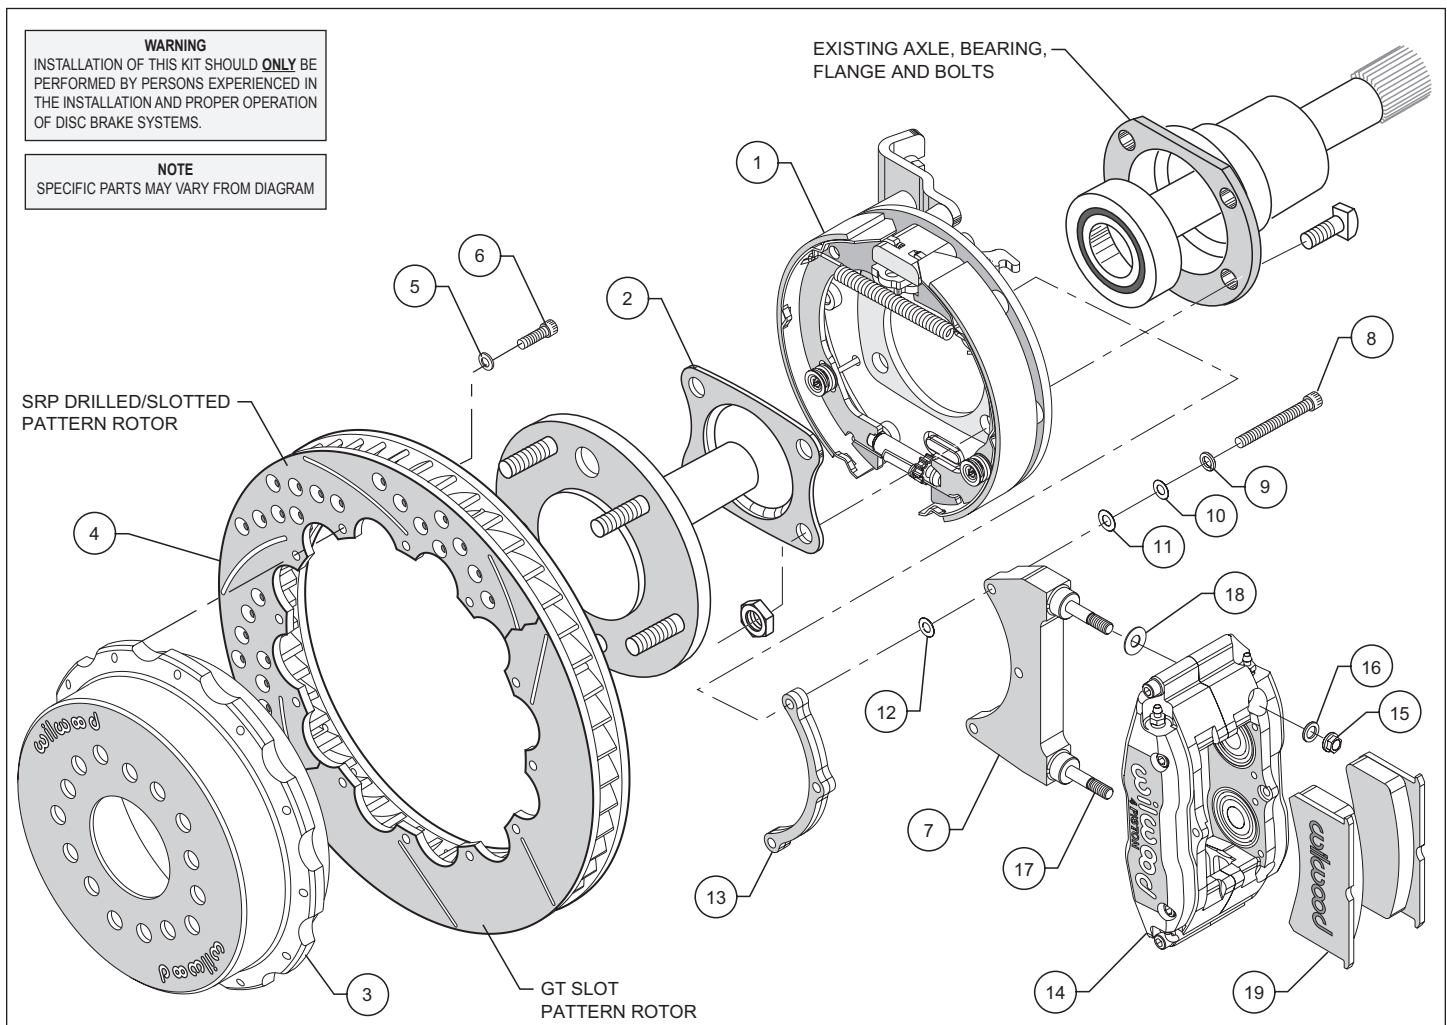

Figure 1. Typical Installation Configuration
- Full Circle Retainers** require the utilization of a qualified machine shop to press off the axle bearing and OEM retainer. Then have machine shop install new retainer (2), supplied with bracket kit with lip facing toward bearing, reference Figures 1, 4 and 5 (we suggest that you install a new bearing at this time, not supplied with kit).
- "U" Retainers** require the removal of the OEM retainer by cutting or grinding a notch in the retainer to facilitate removal. Once OEM retainer is removed, install new retainer (2) supplied with bracket kit with the "U" opening facing up and the lip facing toward bearing, reference Figures 1, 4 and 5.
•**NOTE:** Please reference the caution statement at the beginning of the assembly instructions. The caliper mounting bracket assembly (7) should be installed first with clean, dry threads on the mounting bolts (8). Install the bracket from the rear side of the bracket kit assembly (1) by sliding bolt (8) through lock washer (9), flat washers (10 and 11) bracket (7), shim washer (12) and finally through the spacer (13), see Figure 1. **NOTE:** End of bolt should not exceed inside face of insert. The bracket must tighten squarely against the back side of the bracket kit assembly (1). Inspect for interference from casting irregularities, machining ridges, burrs, etc. Use one thin shim (12) between the bracket (7) and spacer (13) during initial trial fitting.
• Install one washer (18) over each pre-installed stud (17) on the radial mount bracket (7). Slide the caliper (14) in place over the studs and rotor, then install the washer (16) and lock nut (15) to hold the caliper in place. The caliper bleed screws should be pointing up. Snug the lock nuts (15) and check that the rotor (4) is centered in the caliper (14). Add or subtract .015" shims (12) as necessary between the caliper mounting bracket (7) and the spacer (13) to center the caliper (9).
• Remove the caliper center bridge pad retainer bolt, nut, and tube from the caliper. Slide the brake pads (19) into place. They should install easily without interference. Check that the outside radius of the brake pad is aligned with the outside diameter radius of the rotor face. Add or subtract shims (18) between the caliper (14) and mount bracket (7) to gain the proper alignment. Reinstall the center bridge pad retainer tube, bolt, and locknut. The locknut should be snug without play in the bolt or tube. Be cautious not to over tighten.
• Adjust the parking brake shoes outward (using a drum shoe adjustment tool available at your local auto parts store) while spinning the hat (3) until a slight drag is felt against the hat/drum. Remove the lug nuts that were holding the hat/rotor in place. Install the wheel and lug nuts. Check to see that the wheel rotates freely without interference.
• Once all clearances have been checked, remove the wheel, caliper, hat/rotor from the bracket kit assembly (1). Secure the caliper mounting bracket (7) to the bracket kit assembly (1) using red *Loctite*® 271. Torque bolts (8) to 180 **in-lb**. Reinstall the hat/rotor assembly and again use lug nuts to hold it in place. Lubricate caliper mounting studs and nuts with lightweight oil, reinstall the caliper, torque the caliper nuts (15) to 30-35 **ft-lb**.